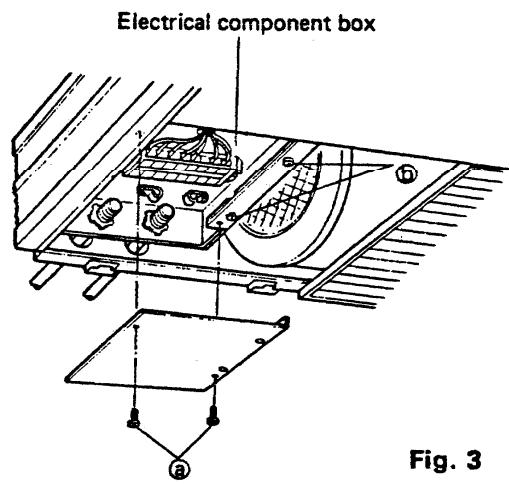

Fig. 3
- 1) Remove the two screws **(a)** of the electrical component box, and remove the cover plate. Fig. 3
- 3) When the three screws (b) are removed, the electrical component box can be pulled out to the lower side of the unit. (The one other screw (b) is at the rear between box and casting.) Fig. 3